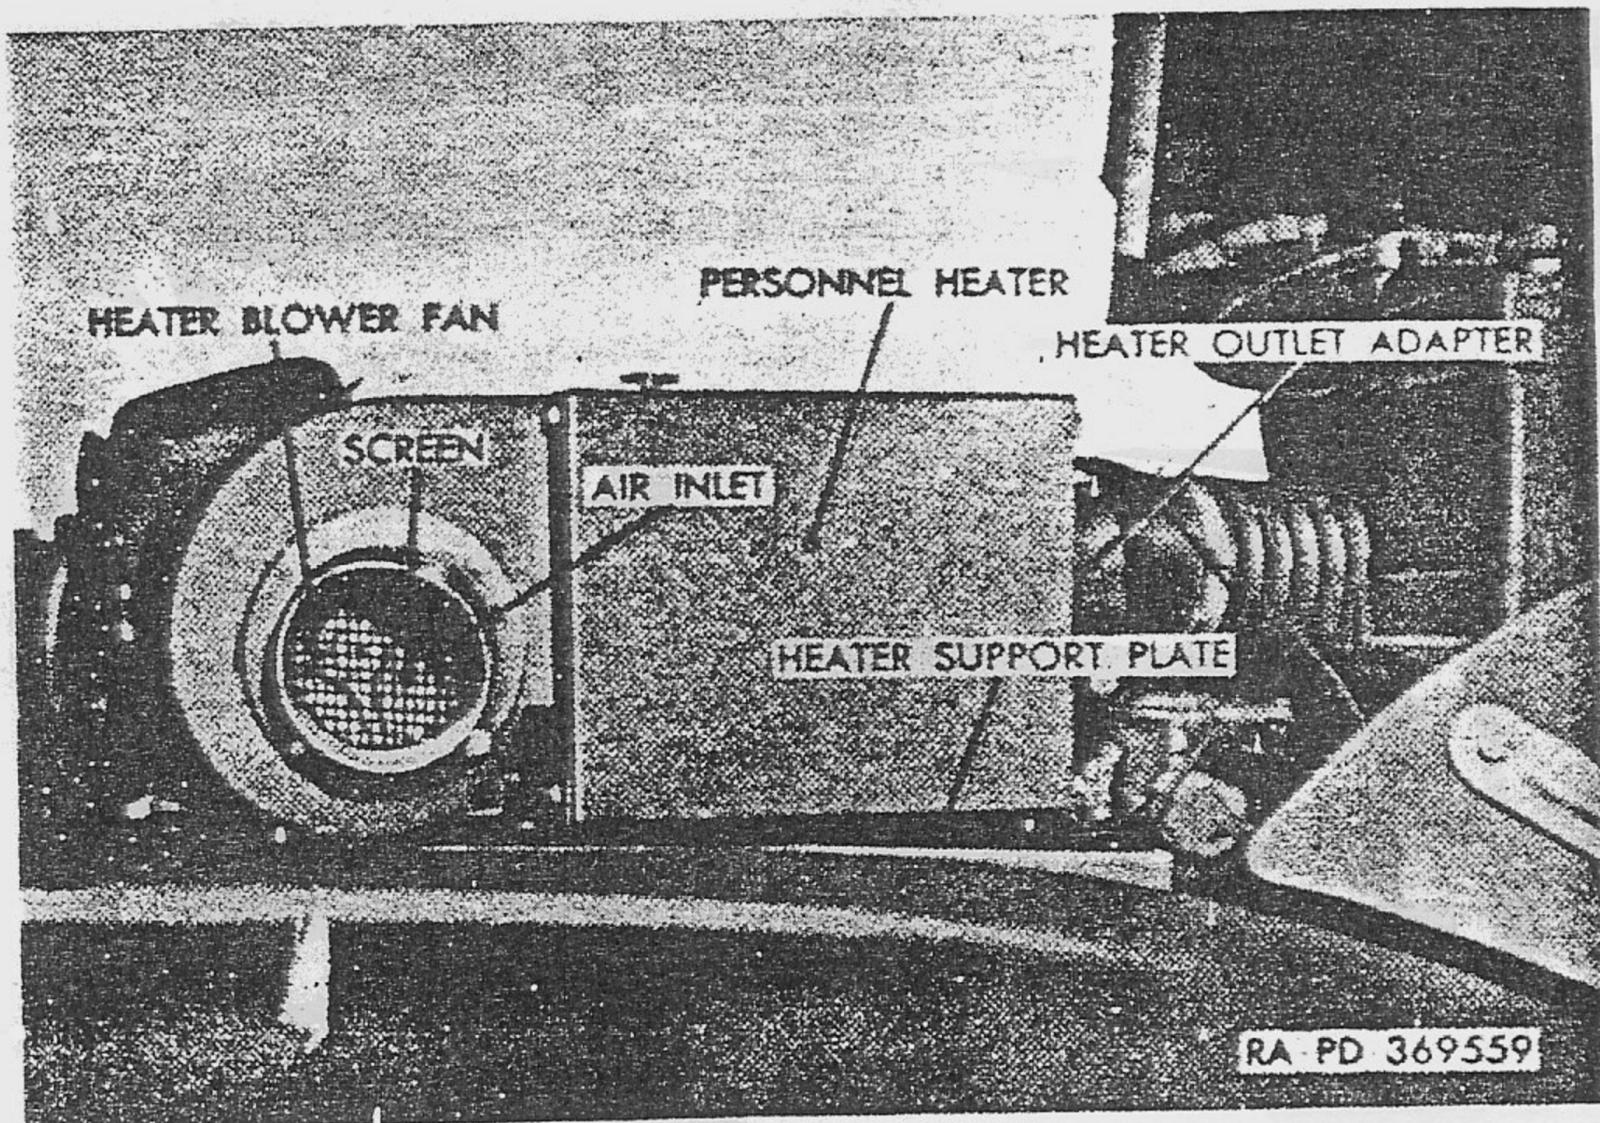

Figure 5. Personnel heater installed.
inlet screen (JJ, fig. 1) and air inlet (HH, fig. 1) over the heater blower fan (fig. 5) with four $\frac{1}{4}$ -20 x $\frac{5}{16}$ machine screws 9407634 and four internal-teeth lockwashers 120423. Position personnel heater assembly (P, fig. 1 and fig. 5) on the heater support plate and secure to support plate and braces with four $\frac{1}{4}$ -20 x $\frac{5}{8}$ hex-head cap screws 120854, $\frac{1}{4}$ -inch hex nuts 120375, and $\frac{1}{4}$ -inch internal-external-teeth lockwashers 174916 as shown in figure 5.
5. Ducts, Hose, and Adapters. a. Install heater outlet adapter (QQ, fig. 1 and fig. 5) on heater outlet, drill four screw holes with a No. 32 drill, and secure with four No. 8-32 x $\frac{3}{8}$ tapping screws 170466 and internal-external-teeth lockwashers 178364.